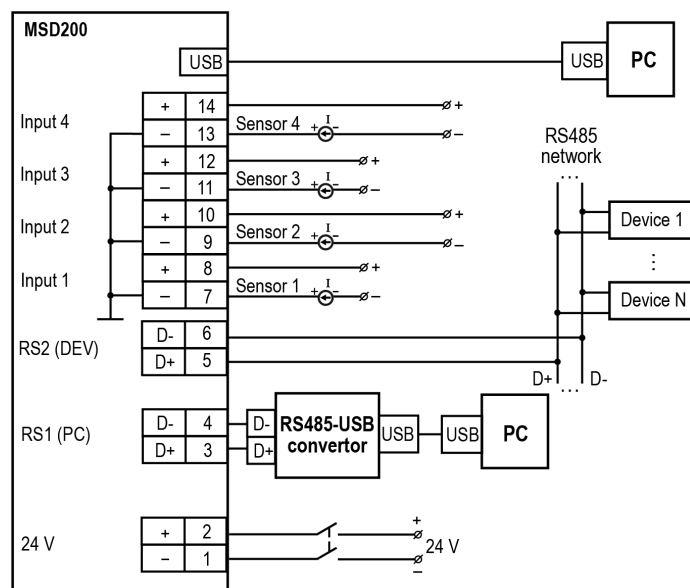

Fig. 3 Connection diagram
2. Wire external connections in accordance with Fig. 3 using plug-in terminal blocks (included).